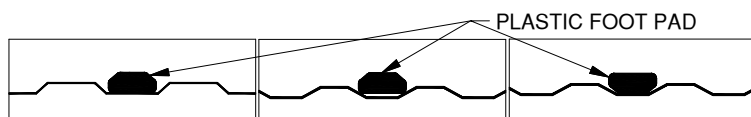

Figure A1:
1. Locate the two plastic foot pads. Each pad attaches to the base through a slot at the end of the base leg. Before attachment, check the width of your bed rib by setting the wide face the plastic foot in a bed rib, see figure A1. If the plastic foot does not reach to the bottom of the bed rib trough, turn the plastic foot over, see figure A2 & A3. Locate four 1/4" machine screws, 1/4" flat washers, 1/4" lock washers and 1/4" finish nuts. Insert the machine screw up through the bottom of the foot pad through the slot and attach it with a 1/4" flat washer, 1/4" lock washer and a 1/4" finish nut, see figure A3. Do not tighten hardware at this time, so that the plastic foot is able to move back and forth in the slot.